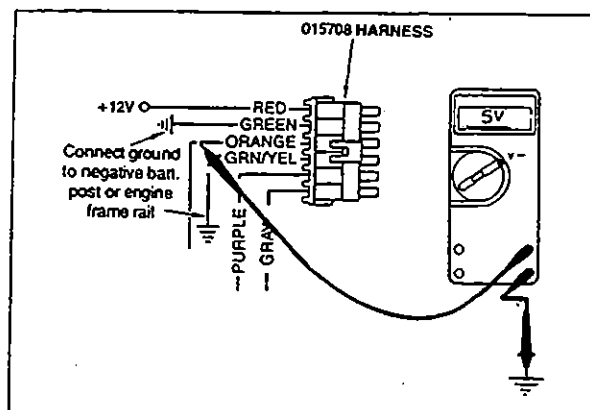

Fig. 1.1.27
**Correction:** Measure the voltage at the ORANGE wire of the control module. With system power ON, the voltage should measure +5 VDC +/- 0.5 VDC (Fig. 1.1.27). If this condition is not present, replace module.